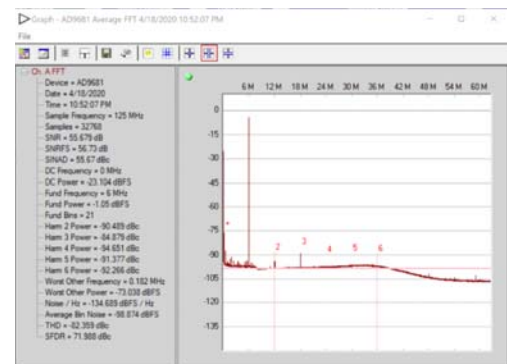
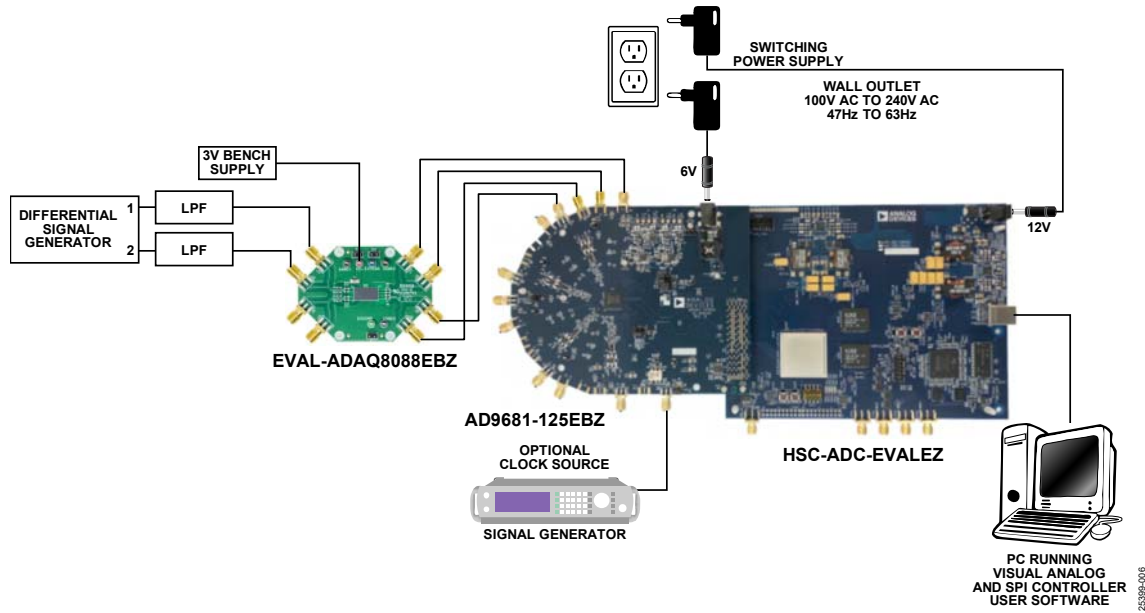

Figure 5. Fast Fourier Transform (FFT) Result
Figure 6. EVAL-ADAQ8088EBZ, AD9681-125EBZ, and HSC-ADC-EVALEZ Connections
- Take the following steps to modify the AD9681-125EBZ (FMC connector version) of each channel selected (Figure 6 shows Channel A1 and Channel A2 selected for use):
- Connect the EVAL-ADAQ8088EBZ to the AD9681-125EBZ, as shown in Figure 6, and then connect the AD9681-125EBZ to the HSC-ADC-EVALEZ by aligning each of their field programmable gate array mezzanine card (FMC) connector and carefully press them together. Note that FMC connectors often come from the factory with a sticker that prevents connection. Remove this sticker (if needed) before attempting to make the connection.
- The I-channel and Q-channel are driven and measured (refer to Figure 6). A sample FFT of the measurement is shown in Figure 5.